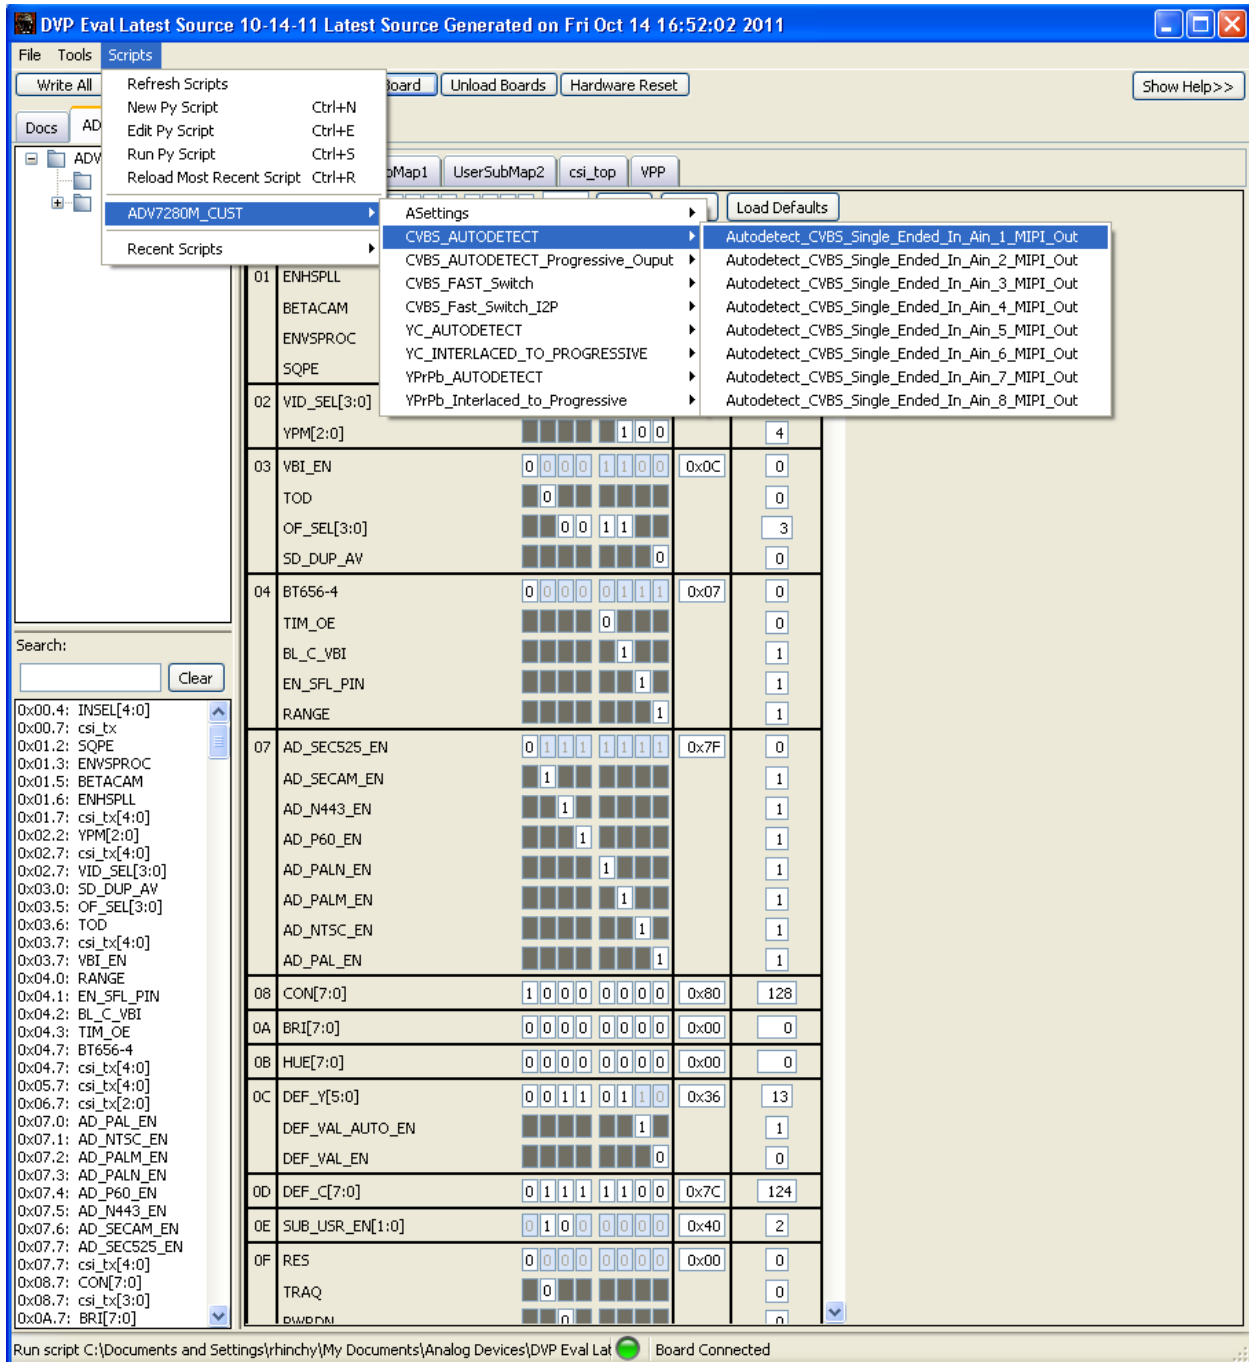

Figure 8. Running ADV7280-M Script on DVP Eval Program
7. Select Scripts-> ADV7280M\_CUST to select the script you wish to run (refer to Figure 8).